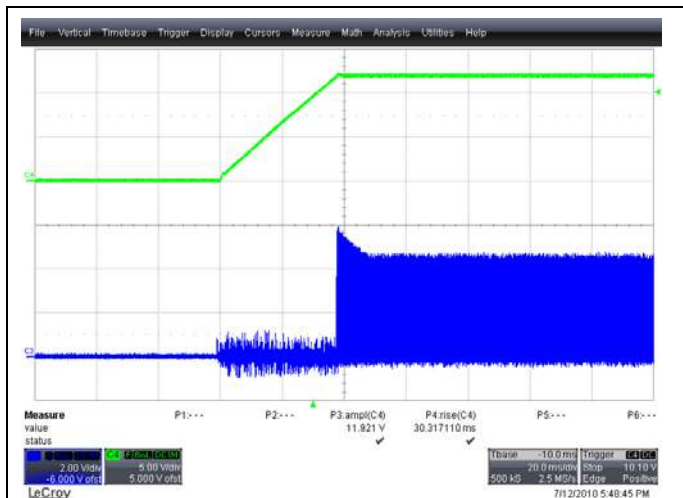

Figure 16 - 40ms softstart, 48VDC, 8A load, with synchronous rectifiers disabled during softstart
**B. Softstart ramp and SR blanking:** Figure 16 and Figure 17 show the startup sequence with the synchronous rectifiers enabled/disabled with a 20ms and 40ms softstart ramp respectively.